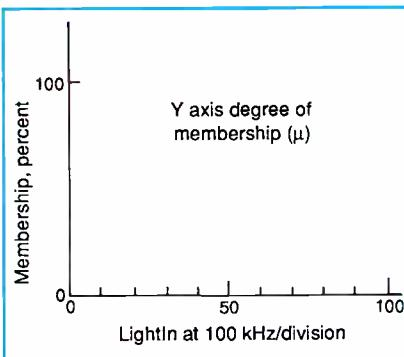

Fig. 6. Input graph for plotting degree of membership versus LightIn at 10 kHz/ division.
- **Graphs.** Variables LightIn and LightOut each requires a separate graph. Fig 6 shows the graph for the input. The values for the X axis are the input values from the 555 timer. They start at 0 (room darkest) and end at 100,000 ohms (room lightest). The Y axis is called the degree of membership (fuzzy value). Most documenta-